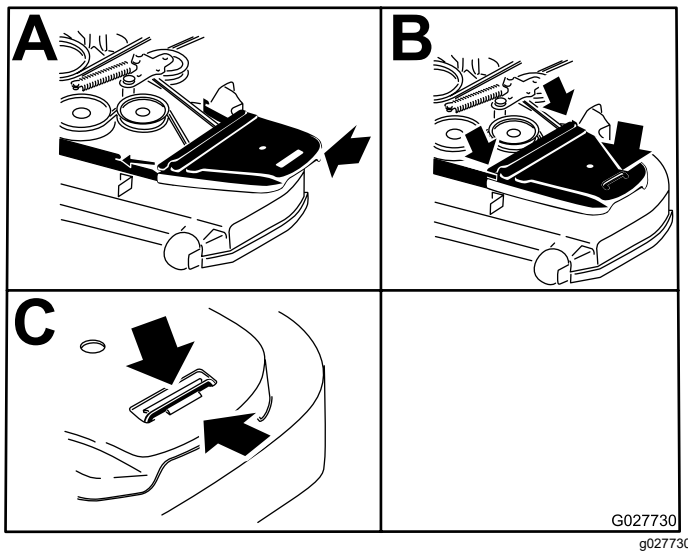

Figure 63
15. Install the belt covers (Figure 63).